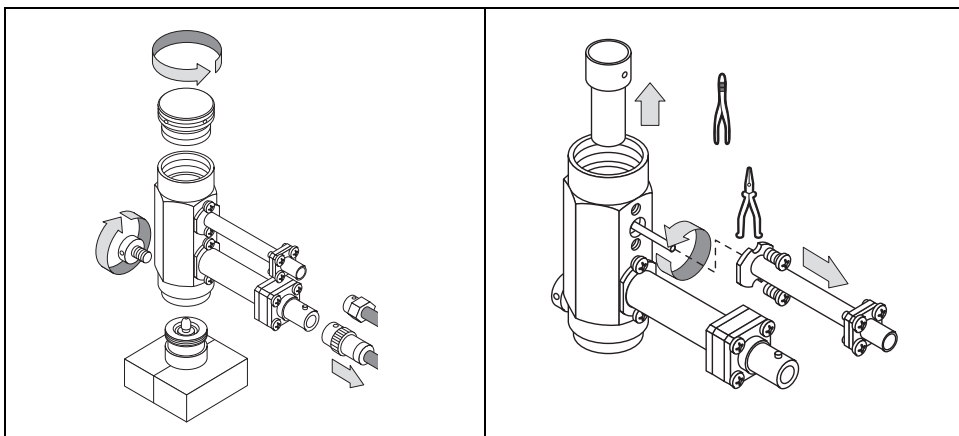

Figure 15-16. Clean/Replace the Collecting Electrode (1).
4. Disconnect the signal and ignition polarization cables from the detector. See Figure 15-16.
5. Loosen the fixing screw on the front of the detector cell and remove it. See Figure 15-16.
6. Unscrew and remove the cap of the detector cell. See Figure 15-16.